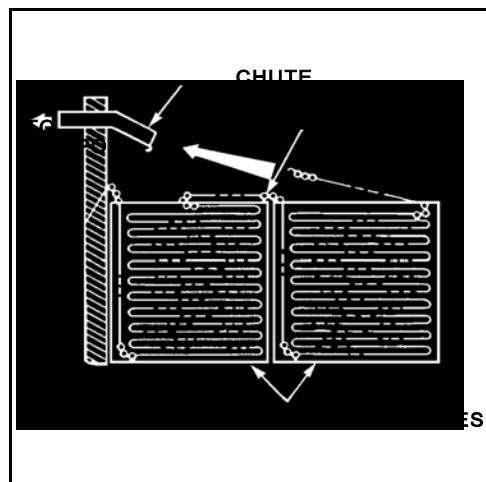

Figure 4. Load second and third sections.
c. Continue loading 100-round belts into the ammunition box by linking new belts to the loaded belt, snapping the single link to the last cartridge of the new belt. As other ammunition boxes are opened and 100-round belts are taken out, inspect rounds and links for misalignment or damage. Again, realign if necessary, and **DO NOT** load unserviceable ammunition. Continue to load until the first section of the ammunition box is full, then the second section (Figure 4).